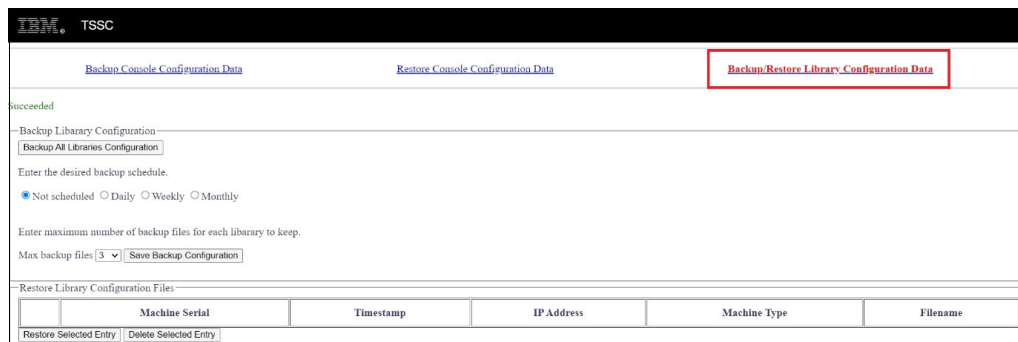

Figure 5-143 Backup/Restore configuration data
3. On the next window, click **Backup/Restore Library Configuration Data**. (Figure 5-143).